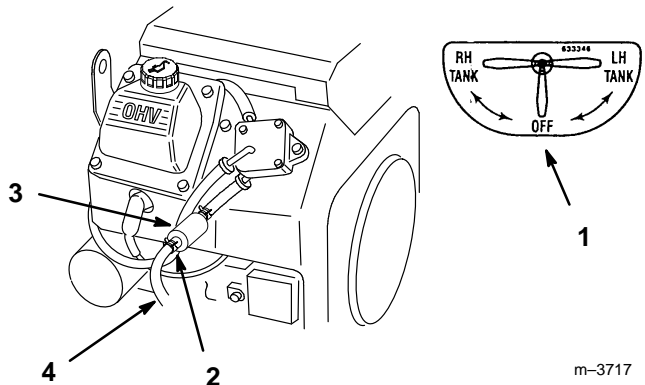

Figure 32
2. Close fuel shut-off valve (Fig. 32).
3. Loosen the hose clamp at the fuel filter and slide it up the fuel line away from the fuel filter (Fig. 32).
4. Pull the fuel line off fuel filter (Fig. 32). Open fuel shut-off valve and allow gasoline to drain into a gas can or drain pan.
5. Install the fuel line onto the fuel filter. Slide the hose clamp close to the fuel filter to secure the fuel line (Fig. 32).